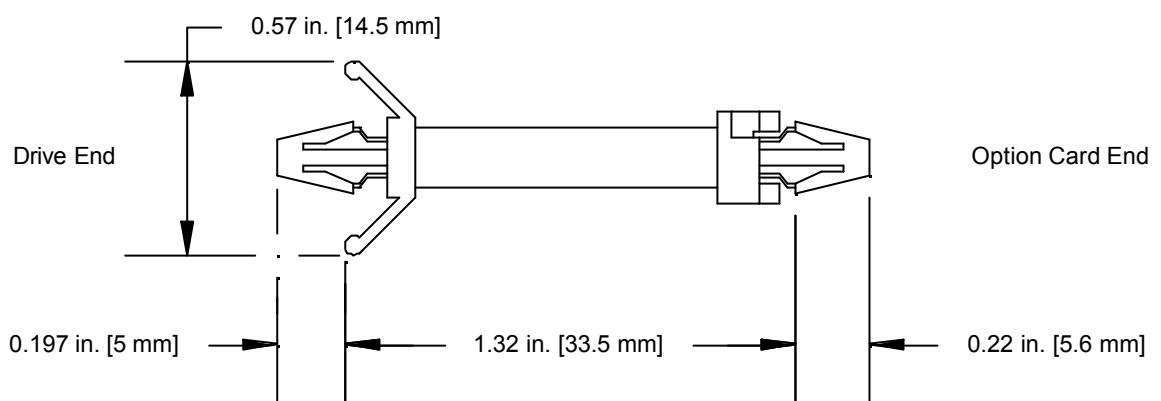

Figure 2. Spacer
- (1) Remove contents from package and verify that a mounting spacer (code number SRNT41028-9) is included with the card (see Figure 2).